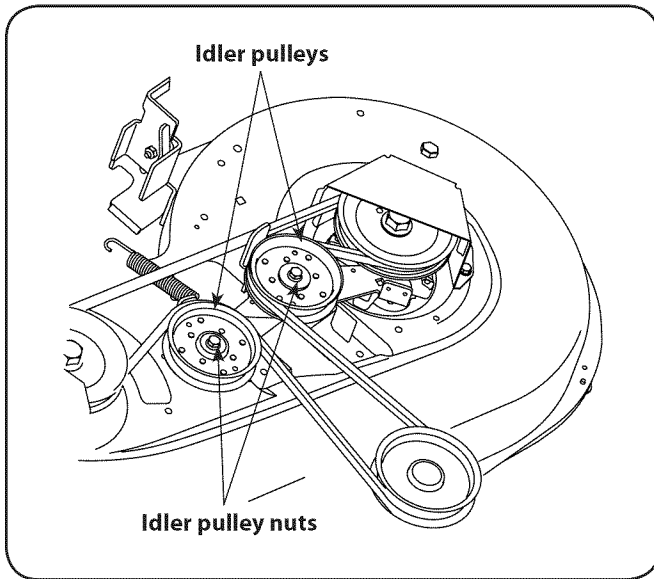

Figure 7-7
- On the 42-inch deck only, loosen but do not remove, the idler pulley nuts. This will enable the belt to be easily removed from the idler pulleys. See Fig. 7-7.